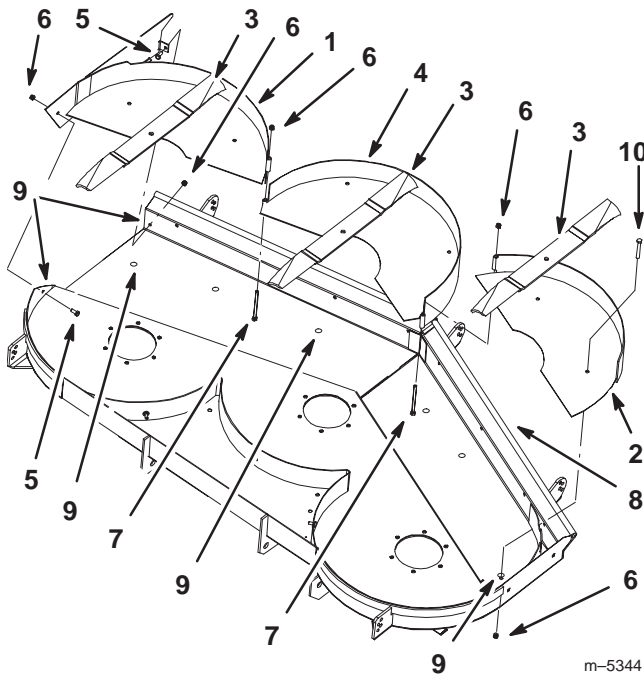

Figure 2
1. To determine where you need to drill holes, place center baffle into deck and against the the front part of the deck (Fig. 2).
2. Install only the center mulching blade (Fig. 2).
IMPORTANT: The sail part of the blade (i.e., the turned up section) must face the inside of the mower (Fig. 2).
5. Mark the location for center baffle mounting holes and then remove baffle (Fig. 2).
1. Assemble center baffle to the left and right baffles using 2 bolts (5/16 x 4-1/2 in.) and 2 lock nuts (Fig. 2).
4. Install center baffle to deck with 2 bolts (5/16 x 2-3/4 in.) and 2 lock nuts (5/16 in.) (Fig. 2).
1. Place the left and right baffles, while connected to center baffle, against the front part of the deck (Fig. 2).
2. Install left and right mulching blades after the baffles are in place (Fig. 2).
IMPORTANT: The sail part of the blades (i.e., the turned up section) must face the inside of the mower (Fig. 2).
5. Mark the location of the left and right baffle mounting holes (Fig. 2).
Note: Make sure to mark and drill the right baffle mounting holes that are on the front and side of the deck (Fig. 2).
7. Install left baffle to deck with 2 bolts (5/16 x 2-3/4 in.) and 2 lock nuts (5/16 in.) (Fig. 2).
8. Install right baffle to deck with bolts (5/16 x 2-3/4 in.) and 2 lock nuts (5/16 in.) (Fig. 2).
9. Install right baffle to front and side of the deck with 2 bolts (5/16 x 3/4 in.) and 2 lock nuts (5/16 in.) (Fig. 2).